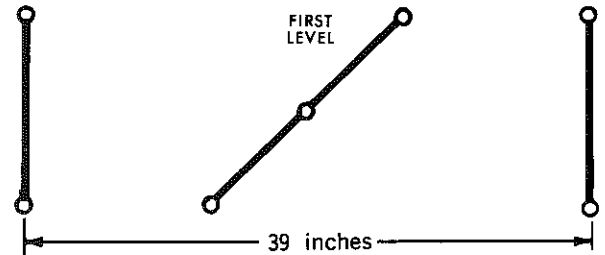

FIGURE 2
□ Set down the two 2-hole braces on the floor about 39 inches (one long step) apart. Set a 3-hole brace diagonally about halfway between them. This is the first level. (Fig. 2)